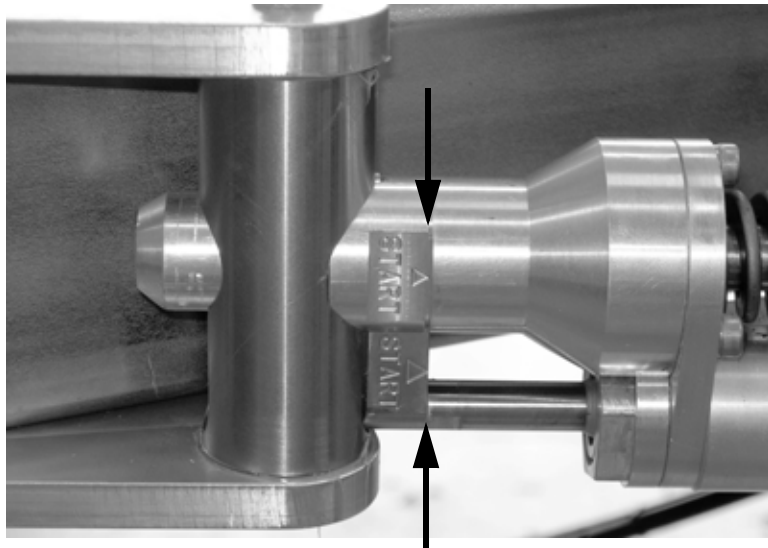

Figure 3-3. When the wire is properly tensioned, the start lines will be lined up together.
2. Tighten the drive wheel tensioning knob, as shown in Figure 3-2, until you can see the line on the spring-loaded driver wheel, Figure 3-3.